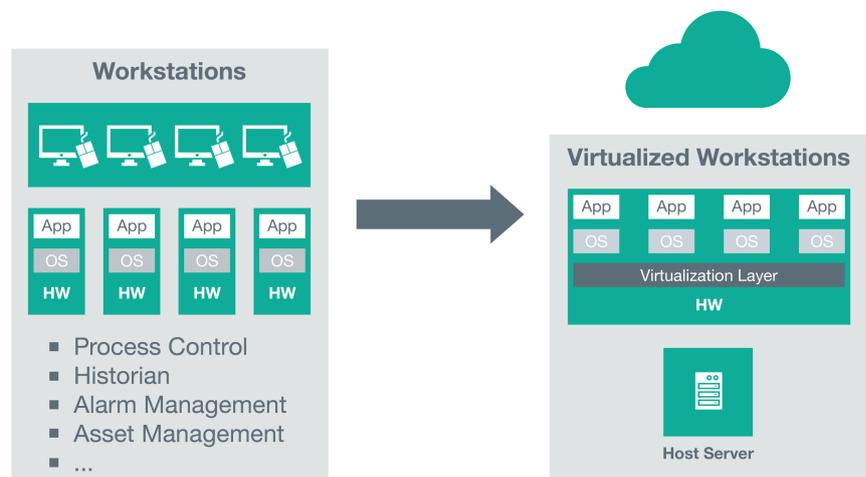

Figure 1.1: Virtualizing multiple workstations on one host server
- **Desktop Virtualization / Virtual Desktop Infrastructure (VDI):** VDI is one of the newer virtualization trends where many complete desktop OSs (e.g., Windows® 7) with their applications are hosted on one host server. This can be used to consolidate multiple workstations with different applications on one centralized host server. (See Figure 1.1)